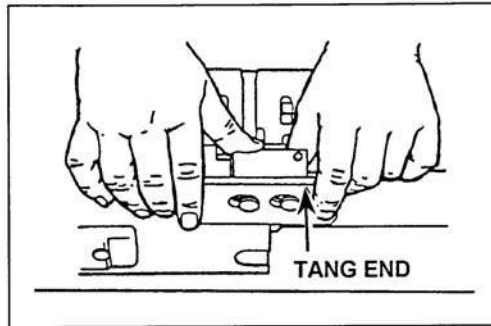

Figure 071-030-0001-17. Attachment of the round positioning block
(4) Hold the charger tightly against the rail. Slide the charger forward until it locks into place.
b. Attach the round positioning block (figure 071-030-0001-17).